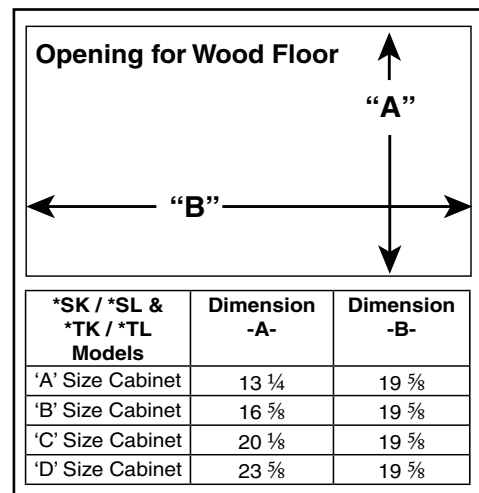

Figure 3. Floor Cutout Dimensions
1. Cut and frame a hole in the wood floor to the dimensions in Figure 3.